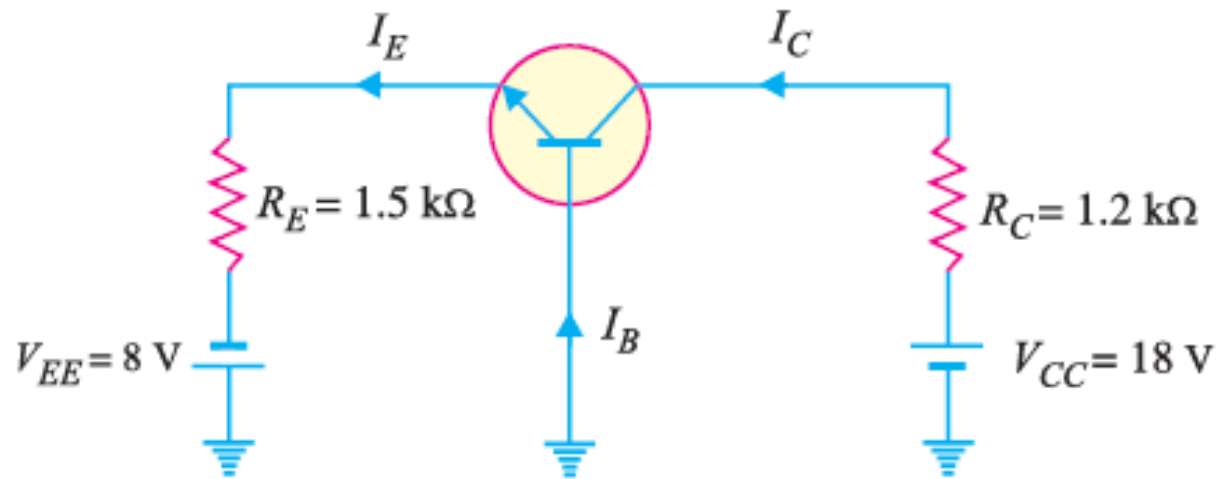

Fig. 3
- For the common base circuit shown in Fig. 3, determine I_C and V_{CB} . Assume the transistor to be of silicon.